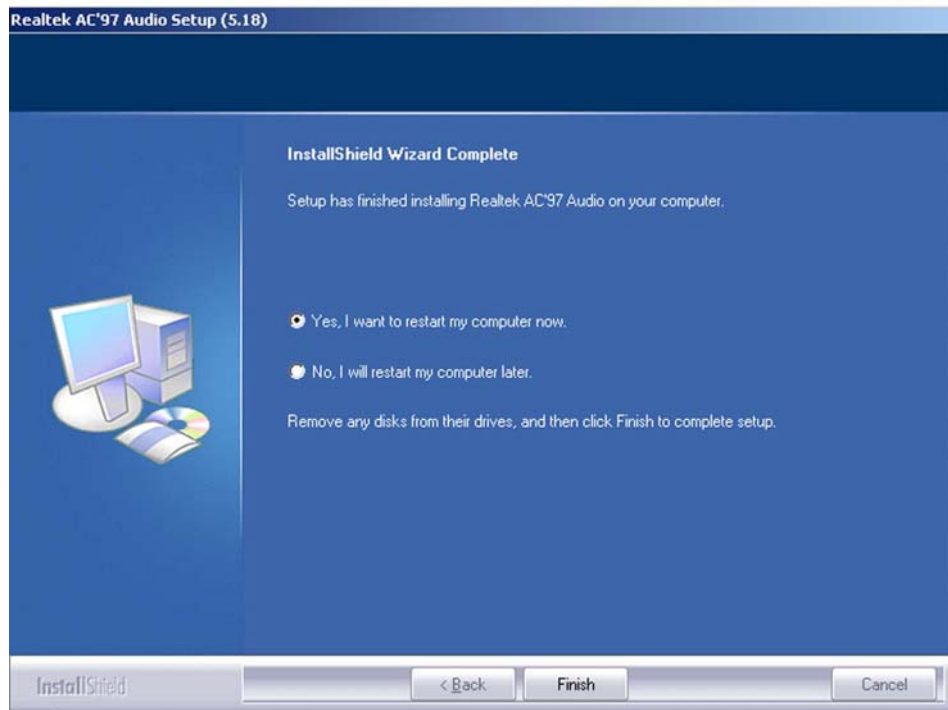

Figure 6-18: Audio Driver Installation Complete
Step 7: After the driver installation process is complete, a confirmation screen shown in **Figure 6-18** appears
Step 8: The confirmation screen shown in **Figure 6-18** allows you to restart the computer immediately after the installation is complete or to restart the computer later. For the settings to take effect the computer must be restarted. Once you have decided when to restart the computer, click the **“FINISH”** button.